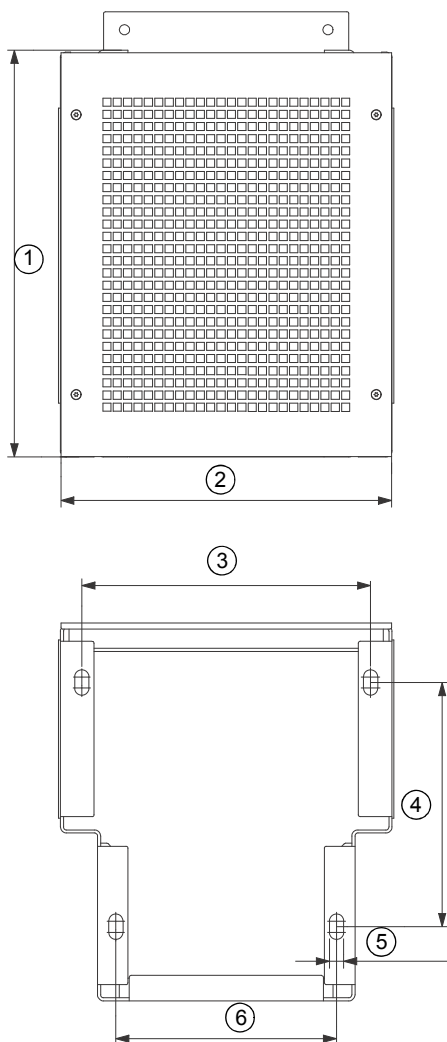

Fig. 6 Drilling template for pedestal
1. Mark the mounting holes on the floor. See fig. 6.